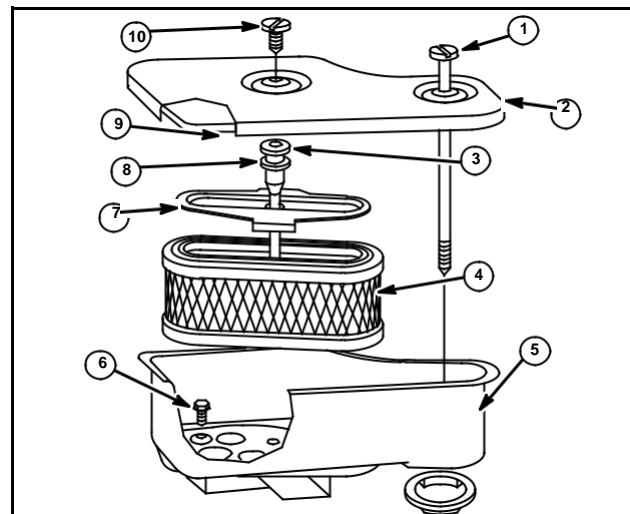

Fig. 8
Reverse Flow Cartridge Air Cleaner, Vertical Crankshaft (Fig. 8)
4. Re-assemble air cleaner as shown in Fig. 8.